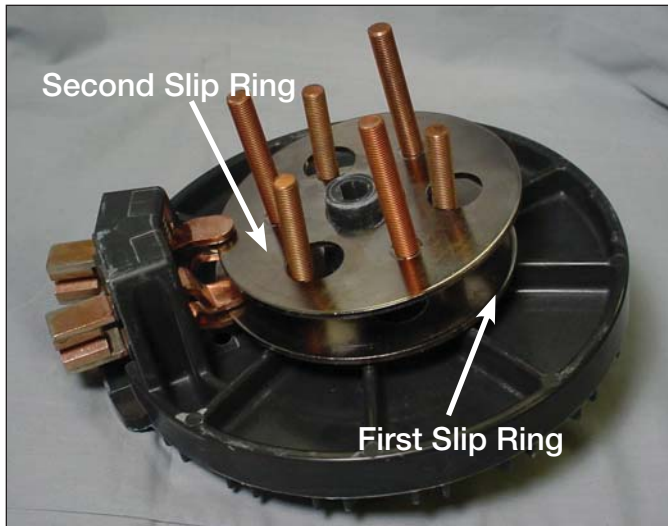

Figure 24.
- Place the second slip ring stud assembly over the first ring assembly studs and the Geneva hub. Angle the ring assembly so that the ring can be inserted between the button contacts on the right hand upper movable contact. See Figure 24.